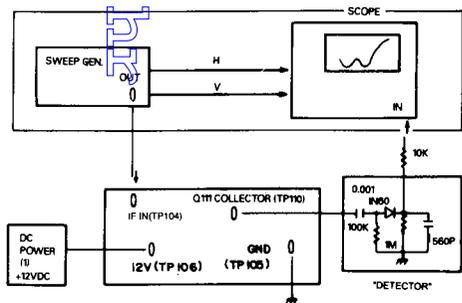

Figure 1. Connection Diagram of Equipment
- (1) Connect as shown in figure 1 and supply with power source (TP109: GND)
- (2) Adjust L119 so that 33.5MHz marker (P-4.5MHz) point may be minimum.
- (3) Adjust L118 so that 32.0MHz marker (P-6.0MHz) point may be minimum.